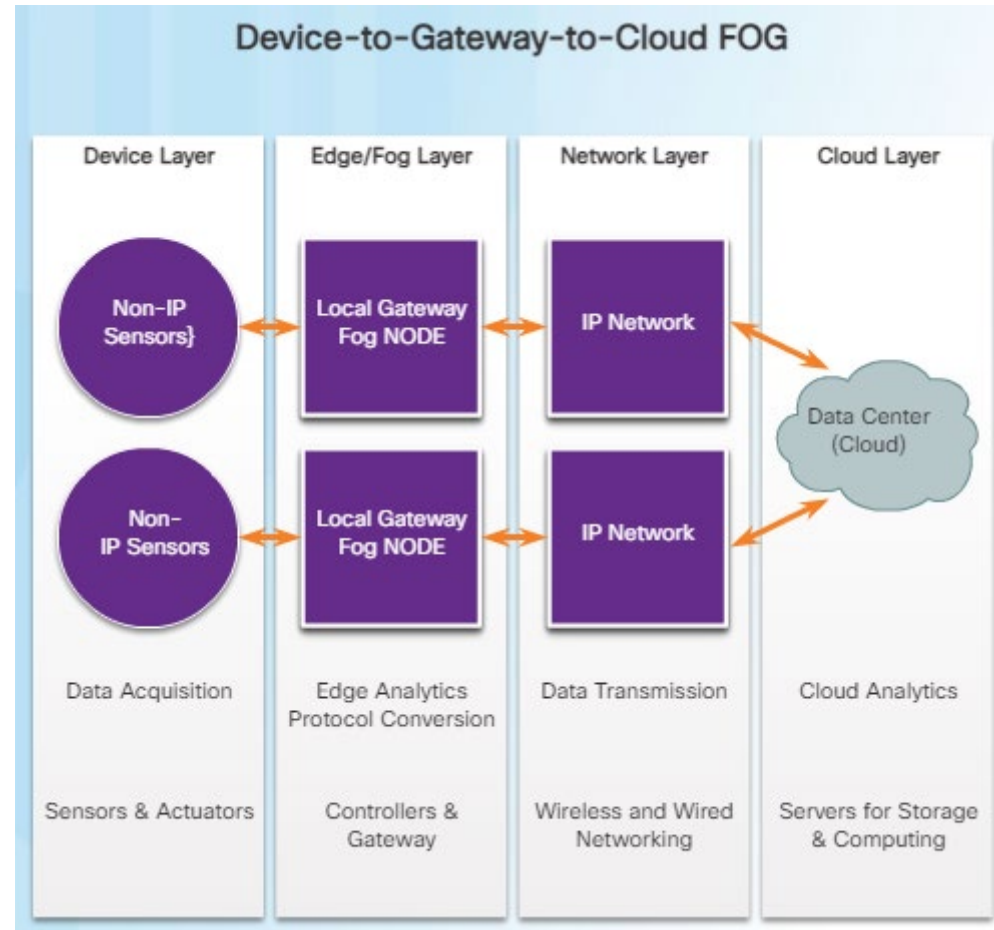

Figure 3
- **Device-to-Gateway-to-Cloud (Figure 3)**